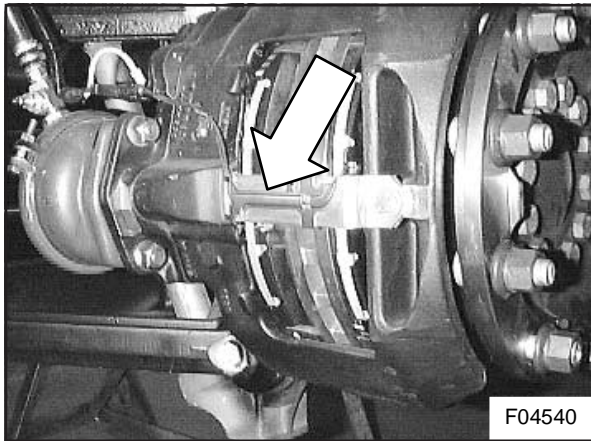

Figure 13 : Pad wear indicator cable holder (early type)
2. Remove the electrical pad wear indicator cable holder (see Figures 13 and 14).